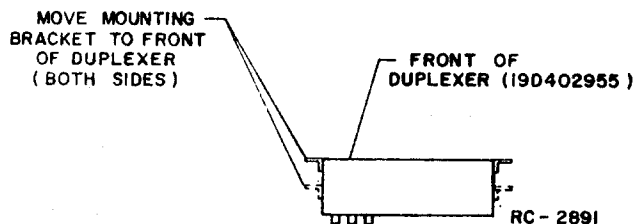

Figure 8 - Mounting Bracket Location for 19D402955 Duplexer
1. For Vertical Cabinet, 44 inch cabinet, or Pole Mount Cabinet rack up Duplexer directly above Radio Housing using hardware supplied with the kit. Connect cables and Test by the following instructions. If the Duplexer is 19D402955, modify per Figure 8 prior to installation.
2. For 30 inch cabinet, rack up Duplexer directly below Radio Housing using hardware supplied with the kit. Connect cables and Test by the following instructions. If the Duplexer is 19D402955, modify per Figure 8.